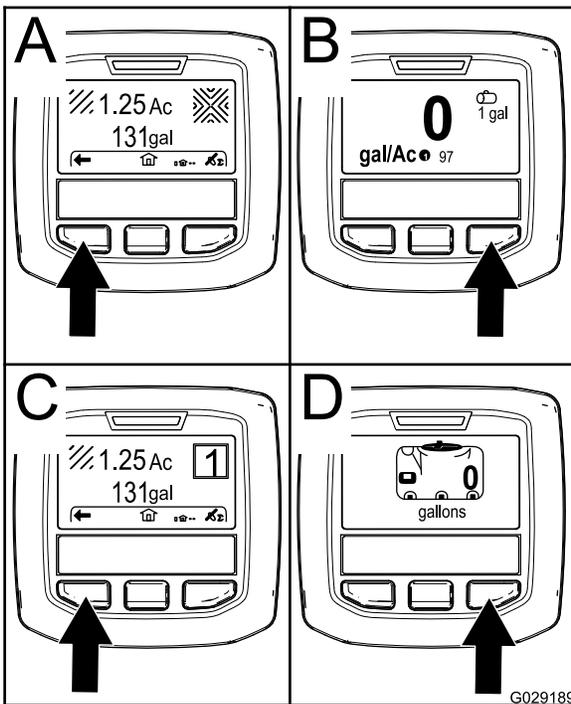

Figure 19
- Right selection button: **Total area sprayed** (A of Figure 19)
- Right selection button: **Application rate** (B of Figure 19)
- Left selection button: **Sub-area sprayed** (C of Figure 19)
- Left selection button: **Tank volume** (D of Figure 19)